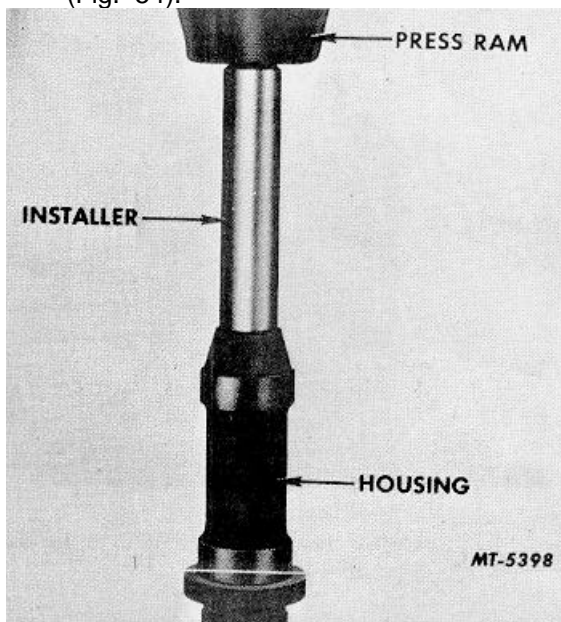

Fig. 54 Pressing Lower Bushing into Housing Using Installer SE-1955-8
12. Position distributor housing in press and insert bushing installer (SE-1955-8) into bushing and press bushing in flush with bottom of housing (Fig. 54).